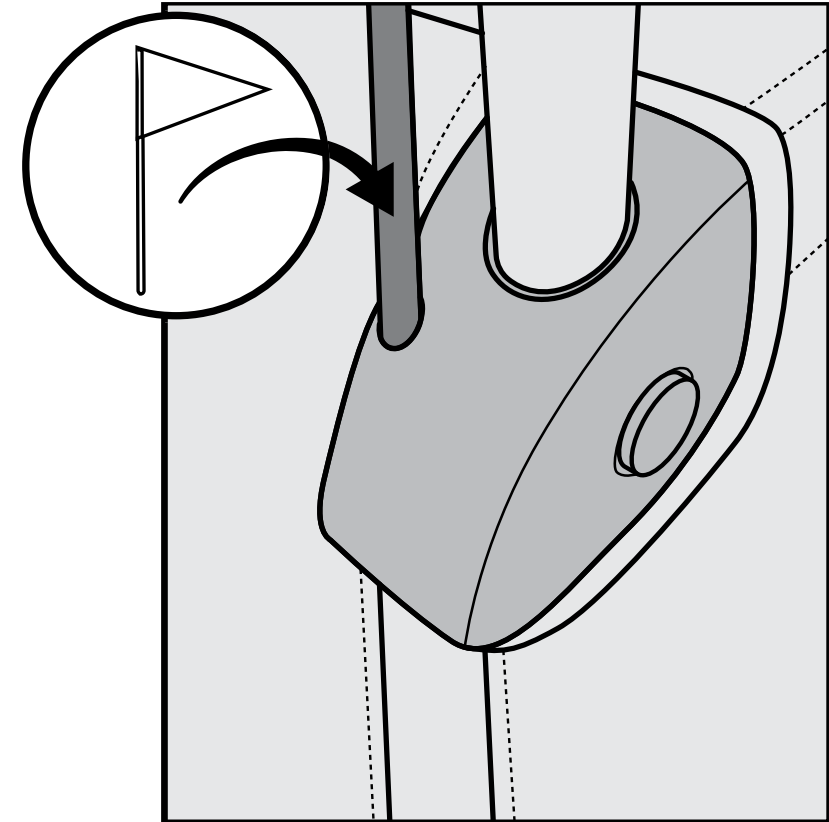

Figure 23
1. Insert the flag into the flag mount located on either handlebar receiver. Ensure it is inserted completely. (Figure 23)